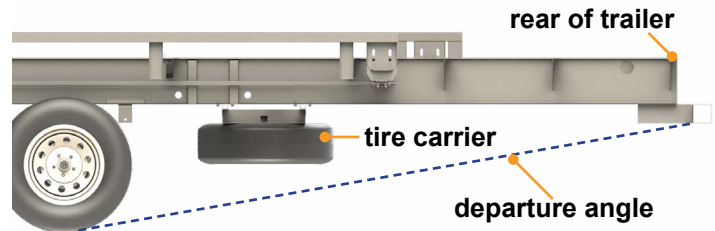

Fig.1
1. Determine location for spare tire carrier to permit curbside access to the winch extension. The carrier can be located behind the rear jacks of the trailer but must remain within the departure angle of the trailer (**Fig.1**).
NOTE: To measure departure angle, run a string line from the meeting point of the tire and ground up to the lowest point on the rear of the trailer — shown in Fig. 1 as dotted lines.